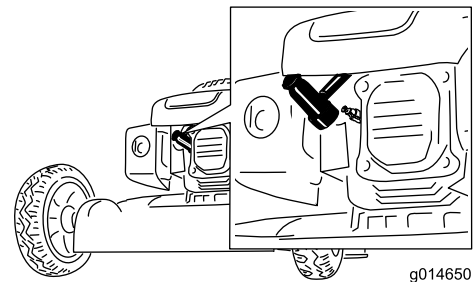

Figure 18
- Disconnect the spark-plug wire from the spark plug (Figure 18) before performing any maintenance procedure.